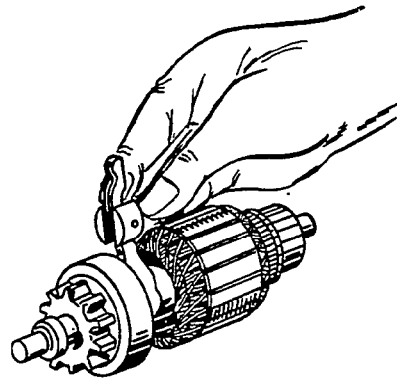
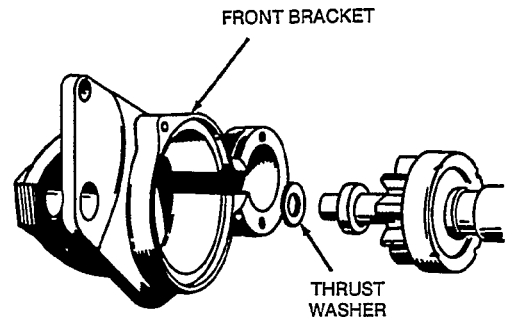

FIGURE 47. SHIFT LEVER INSTALLATION
FIGURE 48. ARMATURE INSTALLATION
4. Place the shift lever assembly in position on the armature as shown in Figure 47. Slide the thrust washer onto the end of the armature shaft, and install the armature and shift lever assembly in the front bracket (Figure 48).